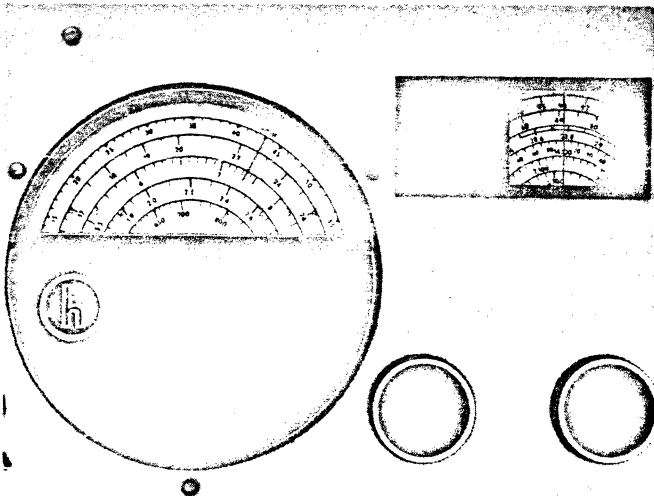
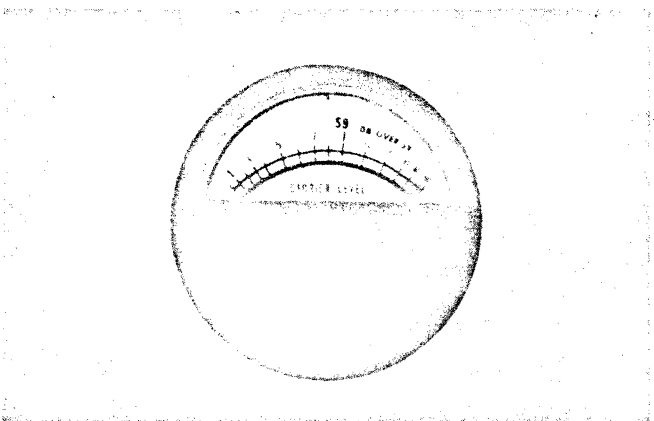

Figure 6. View showing Bandsread and Main Tuning Dials
Figure 7. View showing Carrier Meter
7. Now tune in stations by tuning with the main control knob. (See Fig. 6) As the station is tuned in, the carrier meter needle (See Fig. 7) will move from the left side of the scale to the right. Carefully tune the receiver by causing the meter needle to move as far to the right as possible. At this point the receiver is properly tuned to the station.
9. The frequency calibration on the main tuning dial for the broadcast band is shown on the scale at the bottom of the dial. (See Fig. 6). This scale as all other scales is calibrated in kilocycles and tunes over the broadcast band from 540 to 1650 kc.